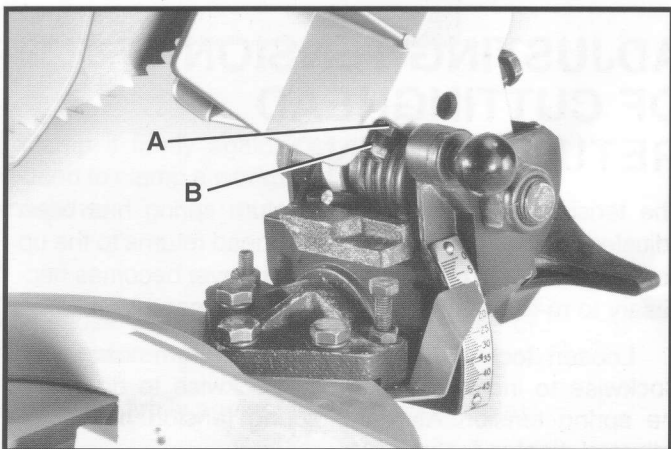

Fig. 24
2. The downward travel of the saw blade can be limited to prevent the saw blade from contacting any metal surfaces of the machine. This adjustment is made by loosening locknut (A) Fig. 24, and turning adjusting screw (B) in or out.
4. After the downward travel of the saw blade has been adjusted, tighten locknut (A)